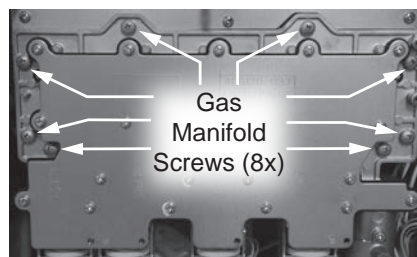

Figure 88 - Removing gas manifold screws
- 14 Locate the eight screws securing the gas manifold to the burner assembly. Remove screws and place aside in a safe place for reinstallation. See Figure 88.